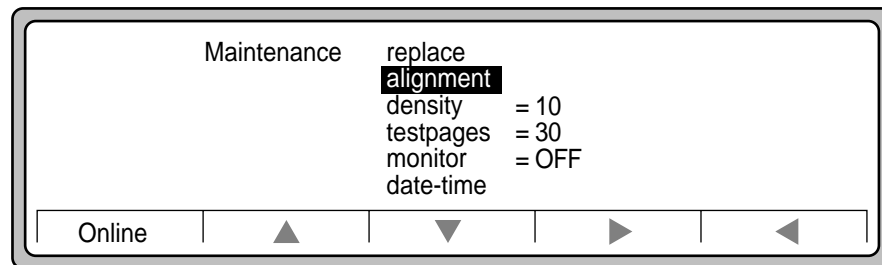

Figure 6-15 Maintenance submenu
5. From the Maintenance submenu shown in Figure 6-15, use ▼ to highlight alignment and press ►.